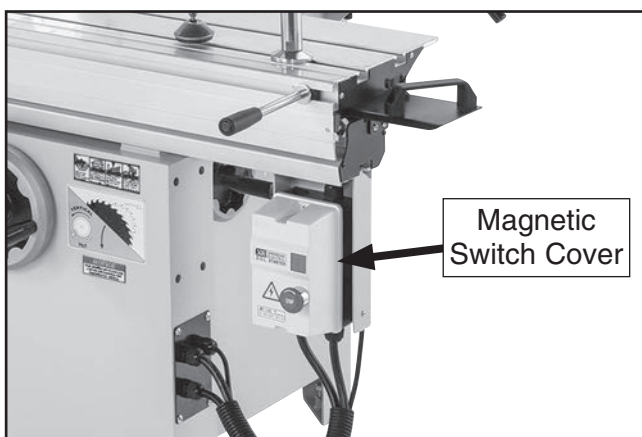

Figure 8. Location of magnetic switch cover.
2. Remove magnetic switch cover (see **Figure 8**).